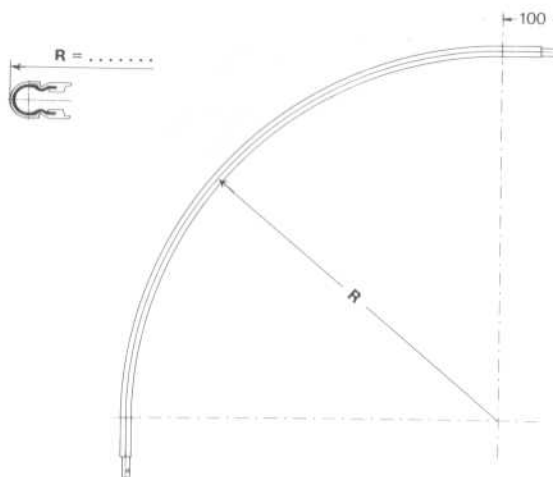

Fig. 8
- Draw radius of curve on floor or flat surface (sheet of plywood etc., see fig. 8).
- On curves with radii smaller than 700 mm a straight section of approx. 100 mm (4") on each end is required to assure a good splice (fig. 8).